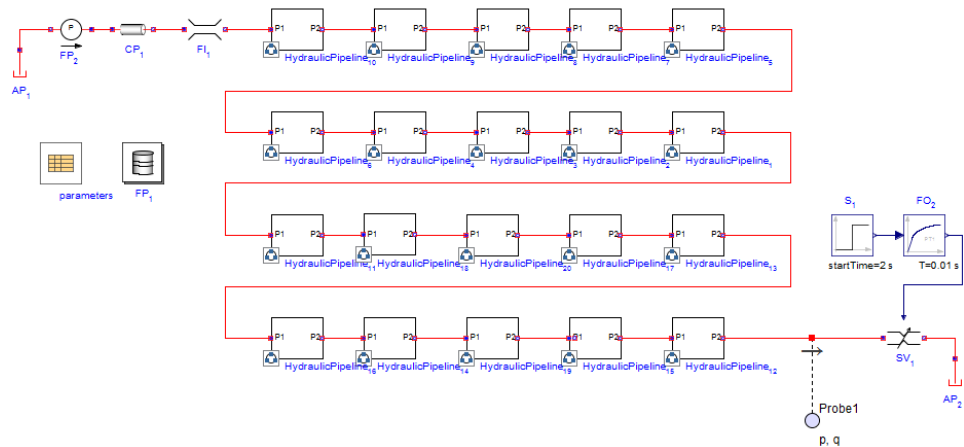
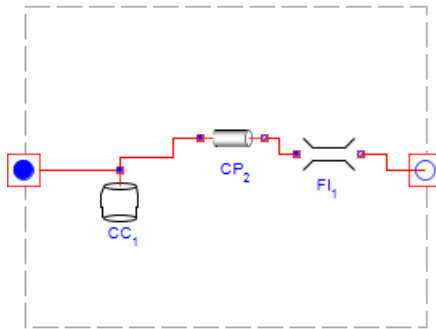

Figure 6.27: Water Hammer
Figure 6.28: Discretized Pipeline Segment
Each subsystem consists of a compliant cylinder, a pipe, and a fluid inertia component as shown in **Figure 6.28**. A pipeline (of total length L and volume V) with N segments has $N + 1$ pipes, each with a length,
1. Build the model with the components and connections shown in **Figure 6.27** and **Figure 6.28**.
- For the **Fixed Pressure** component (**FP₂** in **Figure 6.27**), set the pressure (P) to 500kPa.